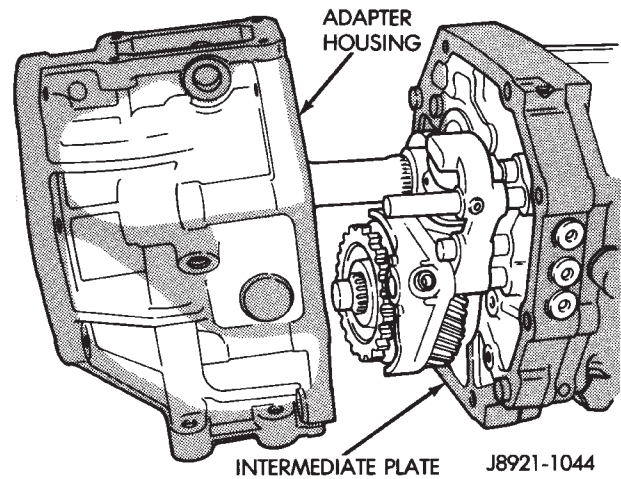

Fig. 119 Adapter/Extension Housing Installation
(16) Align and install adapter or extension housing on intermediate plate (Fig. 119). Be sure housing is seated on intermediate plate dowel pins.
(17) Coat threads of housing attaching bolts with Mopar silicone sealer. Then install and tighten bolts to 37 N·m (27 ft. lbs.) torque.